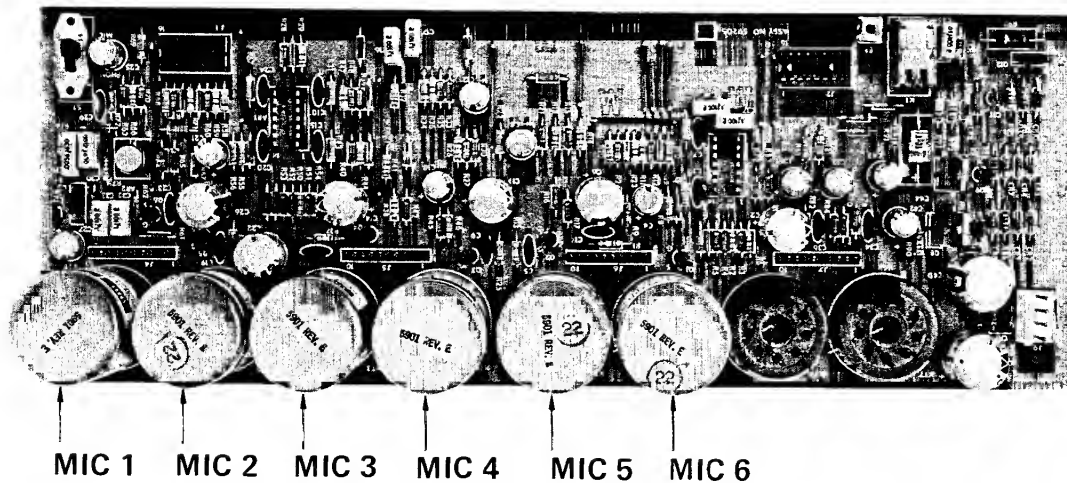

FIGURE 7C
3. Install the optional transformers per Figure 7C.